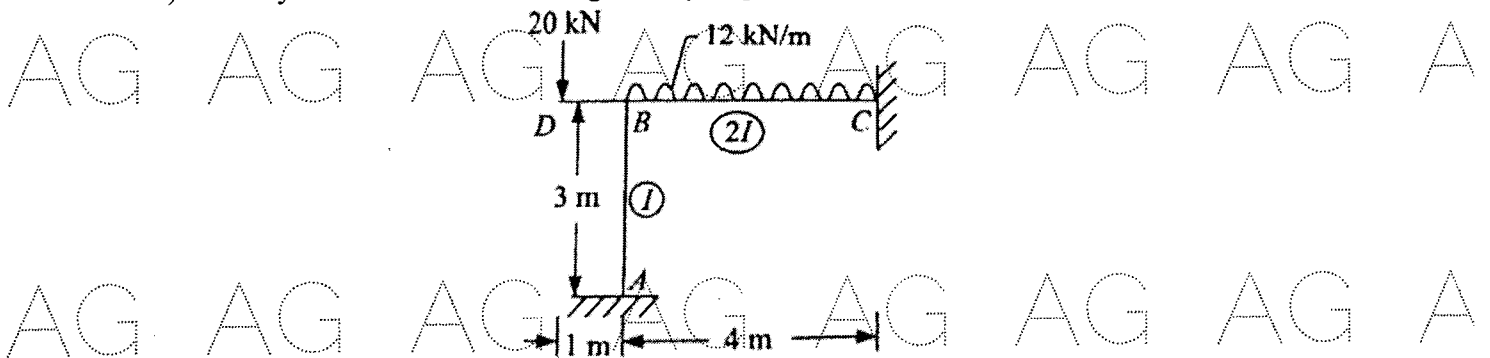

Figure: 6
b) Analyse the frame shown in Figure 6 by slope deflection method. Draw BMD. [5+5]